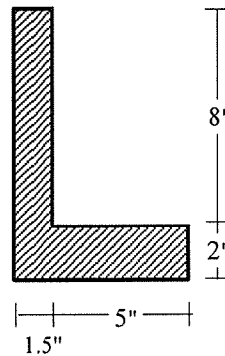

Fig.5
5. Calculate Yield Moment and Plastic Moment capacity of the section shown in **Fig.5** if the section is made of elastic-fully plastic material [Given: $\sigma_{yp} = 49 \text{ ksi}$].